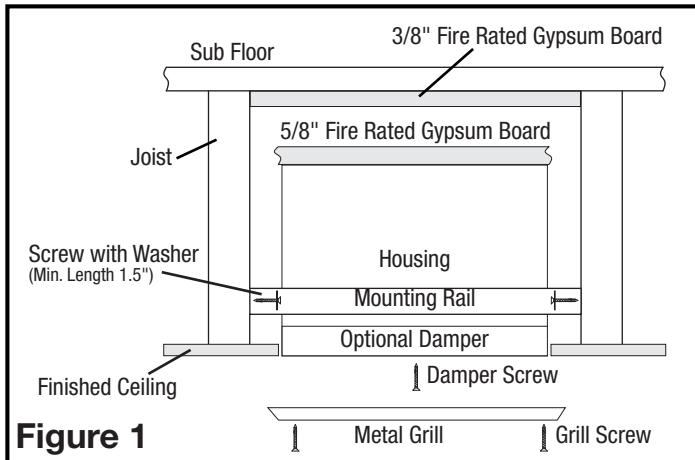

Figure 1
- As per UL and CUL fire resistance construction, install a minimum 3/8" Fire Rated gypsum board 18" long so that it is centered above the fan. The gypsum board must span the distance between the joists, typically 14 1/2" for joists on 16" centers (Figure 1).